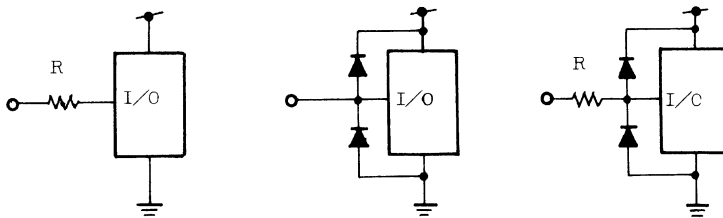

Fig. 8-15 Example of Latch-up Preventive Method
(3) Countermeasures
As ample margin is provided for latch-up as explained in (2), there is no problem in using the unit within the standards. However, for the interface part having the possibility of receiving excessive surge, it is recommended to add the protective circuit as indicated in Fig. 8-15.